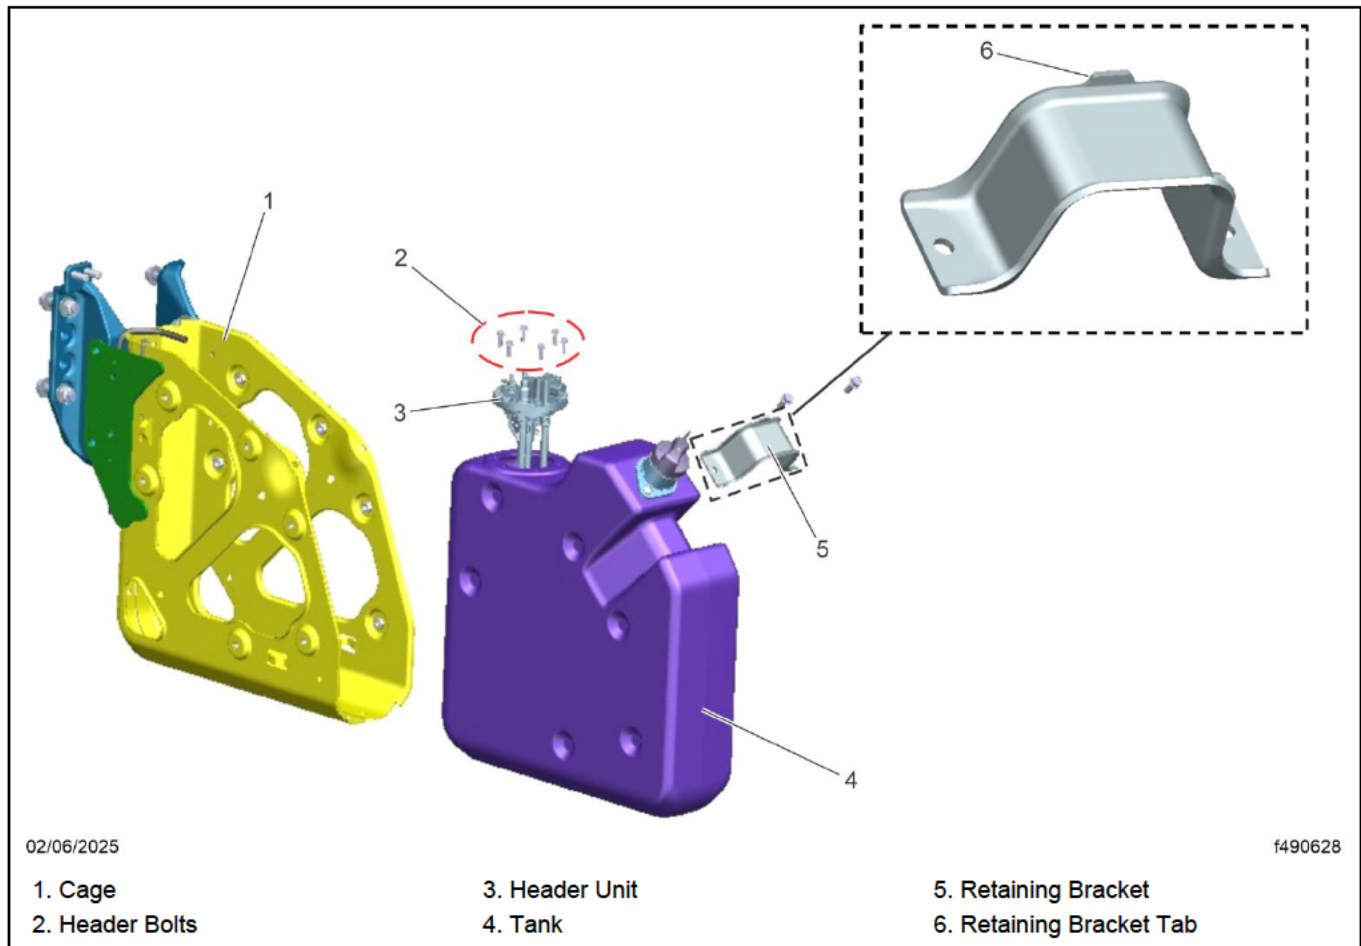

Fig. 1, 8-Gallon DEF Tank Assembly
12. Remove the tank retaining bracket. See Fig. 1.